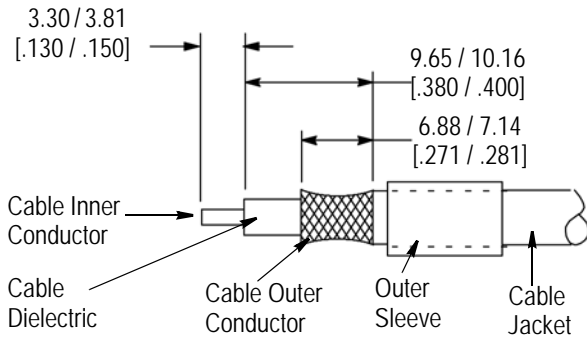

Figure 2
3.1. Preparing the Coaxial Cable End (Figure 2)